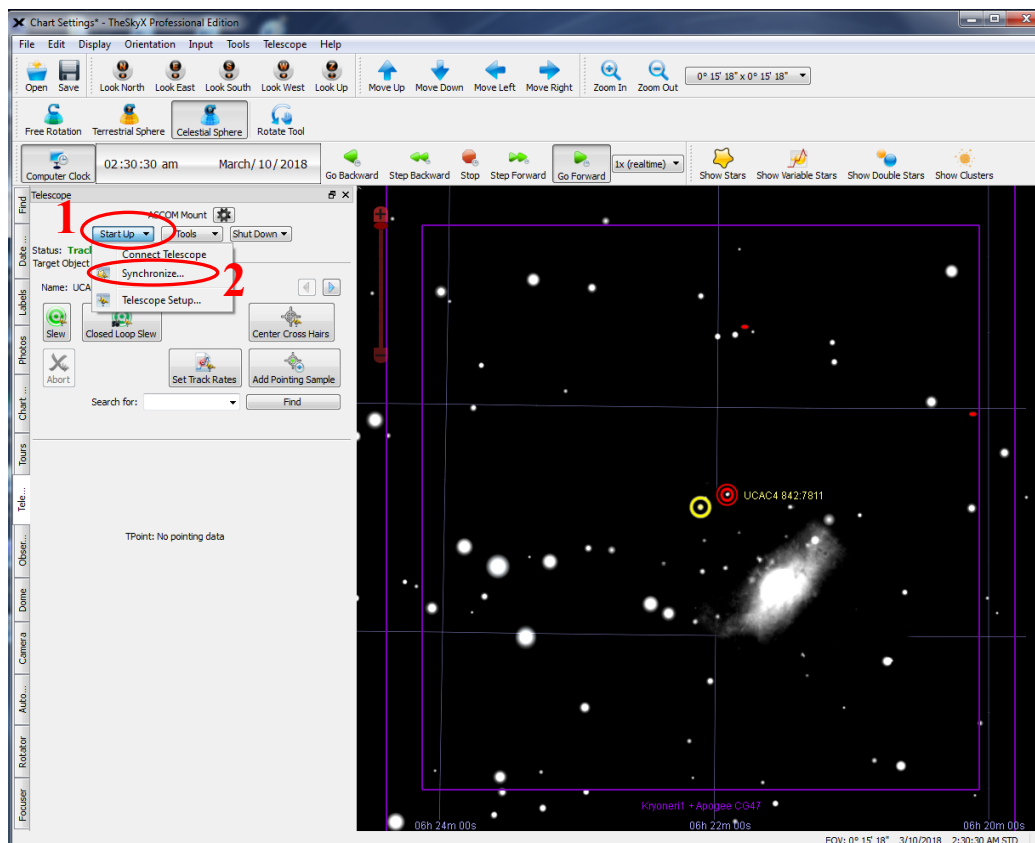
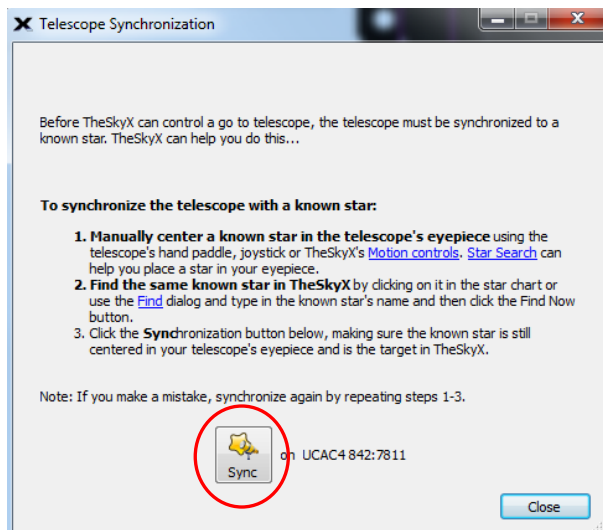

Fig. 8.5. Entering the synchronization menu of “TheSkyX” software.
Fig. 8.6. Synchronizing the telescope with a star using “TheSkyX” software.
3. Once the star is at the center of the image, go back to “TheSkyX” software and click on the specific star. Then, click on the “Start up” button (Fig. 8.5 No 1) and select “Synchronize...” (No 2). The “Telescope synchronization” window opens. Press the “Sync” button (Fig. 8.6).